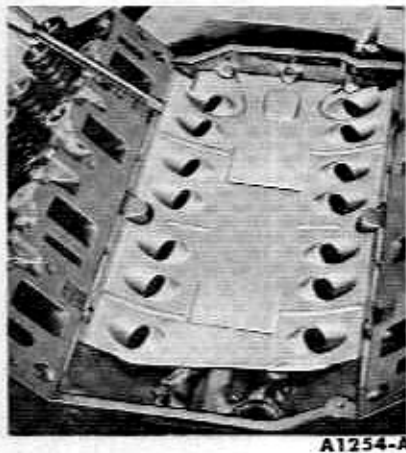

FIG. 16—Baffle Plate Removal
19. Remove the baffle plate from the valve push rod chamber floor by prying up on the baffle with a screwdriver (Fig. 16).